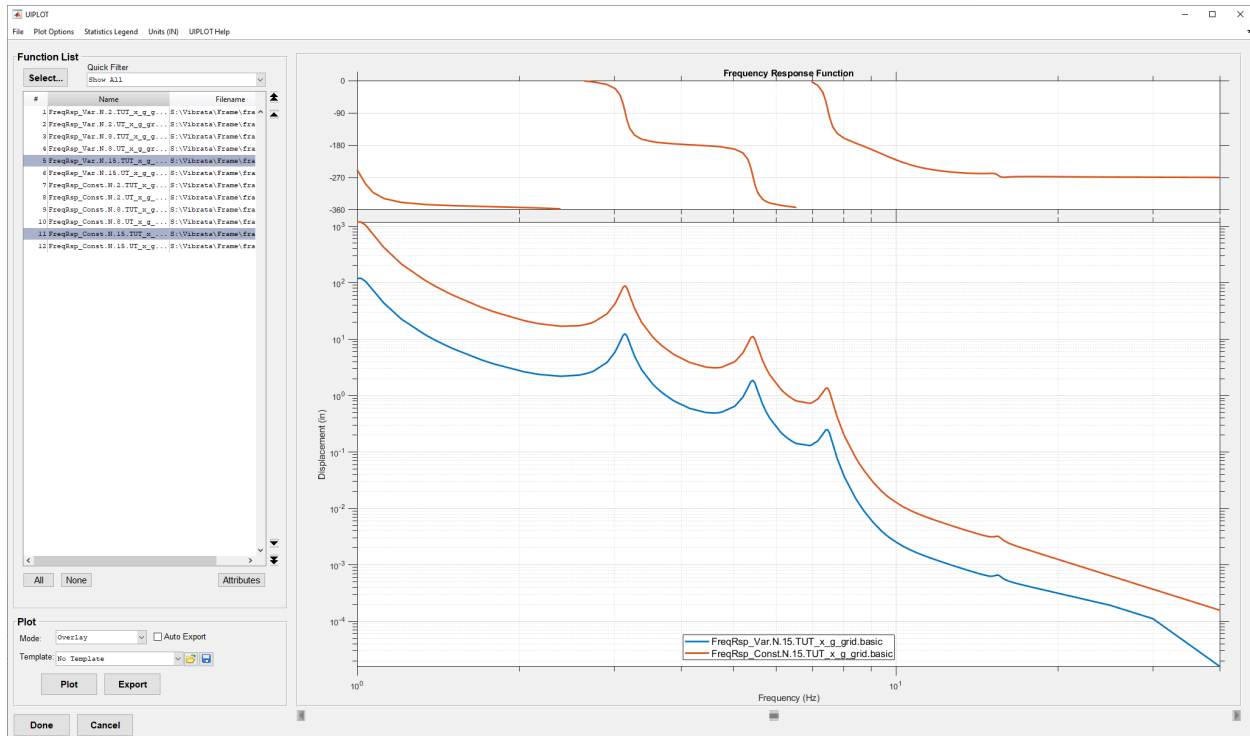

Figure 4-36. Compare the responses of the top corner node for the two inputs.
- c. Plot and compare the results. For example, Figure 4-36 shows the total X-displacement of node 15 from both events. Although the amplitudes differ due to the different excitation levels, the phase changes are identical for both curves because these depend only on the modal frequencies. Use the Plot Options menu to change the data displayed in the legend (inset). Use the right-mouse-button menu in the plot window to show the X-axis with a log scale.